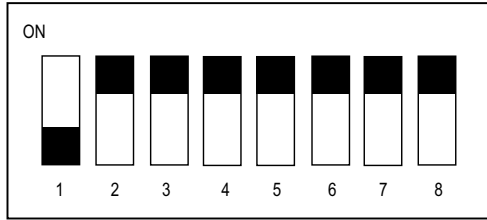
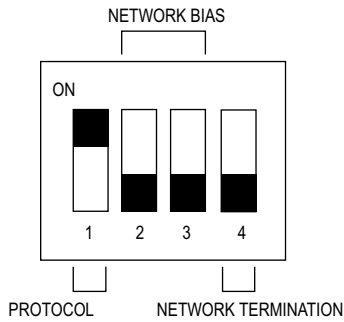

Figure 5
Figure 6
8. Set DIP Switches SW1 and SW2 as desired. Refer to Figure 5, Figure 6, and Appendix I.
Use DIP Switch SW1 (see Figure 5) to configure the RS-485 address of the device. A valid address depends on the protocol selected. Valid BACnet addresses range from 1 to 127. Valid Modbus® communication protocol addresses range from 1 to 247. By default, the device is shipped with Modbus® communication protocol selected and the address set to 127, as shown in Figure 5. A valid and unused address should be set before connecting to an existing network. See Appendix I to configure the required address using DIP Switch SW1. The device will not function properly if an invalid address is set. During the power up sequence, the LCD (if present) will display the RS-485 address as the primary value and either “BAC” to indicate BACnet or “MOD” to indicate Modbus® communication protocol as the primary text. If the RS-485 address is invalid, the invalid address is shown as the primary value with “ERR” as the primary text, and the red LED will periodically blink once.
Use DIP Switch SW2 (see Figure 6) to configure other hardware and software options. Table 1 shows available options. Table 2 shows supported configurations for either BACnet or Modbus® communication protocol.